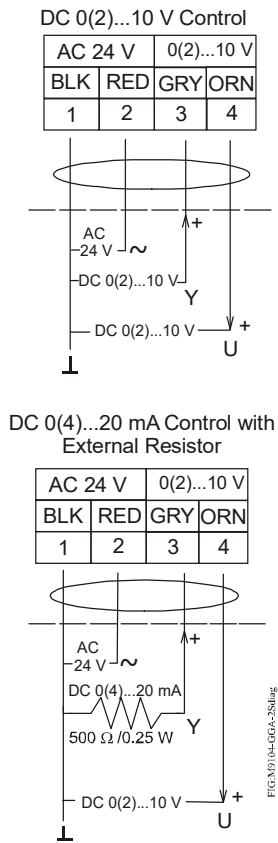

Figure 10: M9104-GGA-2S control wiring diagram
The M9104-GGA Series Electric Non-Spring Return valve actuators require AC 24 V power and a DC 0(2) to 10 V or 0(4) to 20 mA controller input signal. These electric actuators include an integrated 48 in. (1.2 m) long cable. See Figure 10 for proper wiring.